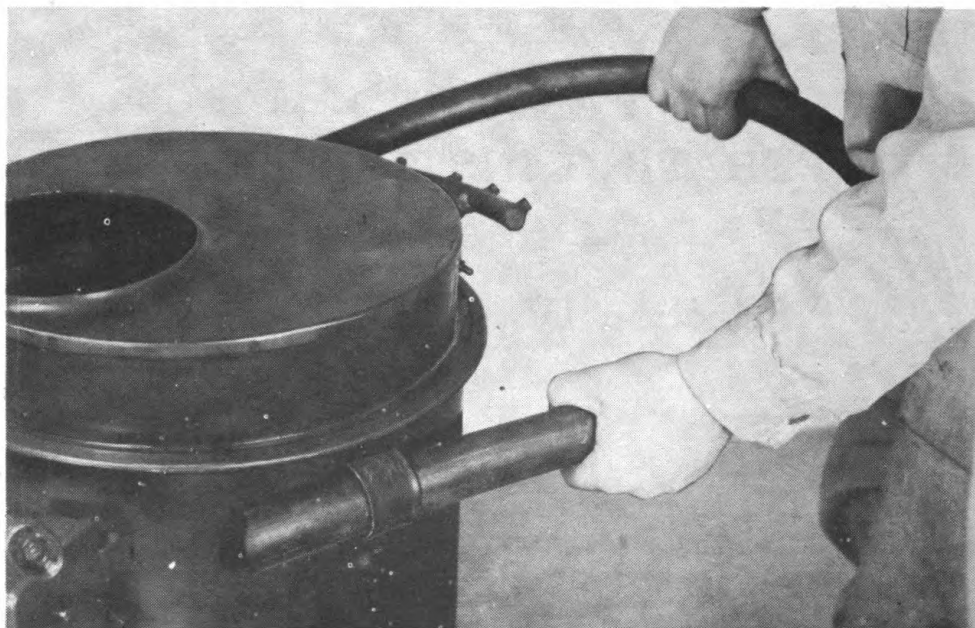

Fig 14. Replacing fog oil suction hose.
(1) Fog oil suction hose. Remove hose from metal loops holding it to generator and examine for holes and breaks. To avoid kinking while replacing hose, insert it first through loop on engine side of furnace assembly, as shown in figure 14, then carry it around and through loop on blower side of furnace assembly.
(2) Spark plugs. Check gaps (par 32). Engine spark plug gap should be .020 inch. Burner spark plug gap should be .062 inch.
(3) Piping. Examine all fittings for tightness.
d. Preliminary fueling and lubrication. (1) Water and gasoline. Fill water and gasoline tanks with clean fuels.